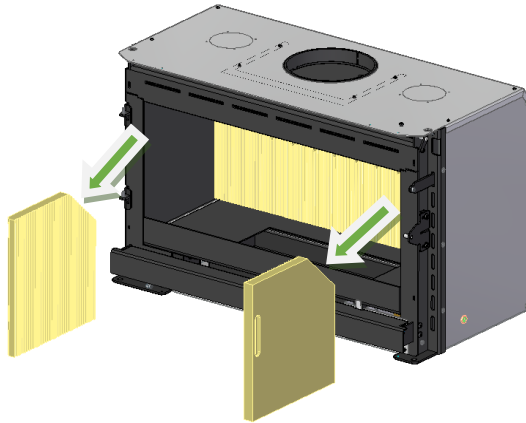

Figure 40 – Removing the vermiculite sides of the equipment
3. Remove the 2 pieces from the sides, moving towards the centre of the equipment and back towards the outside of the equipment, Figure 40.